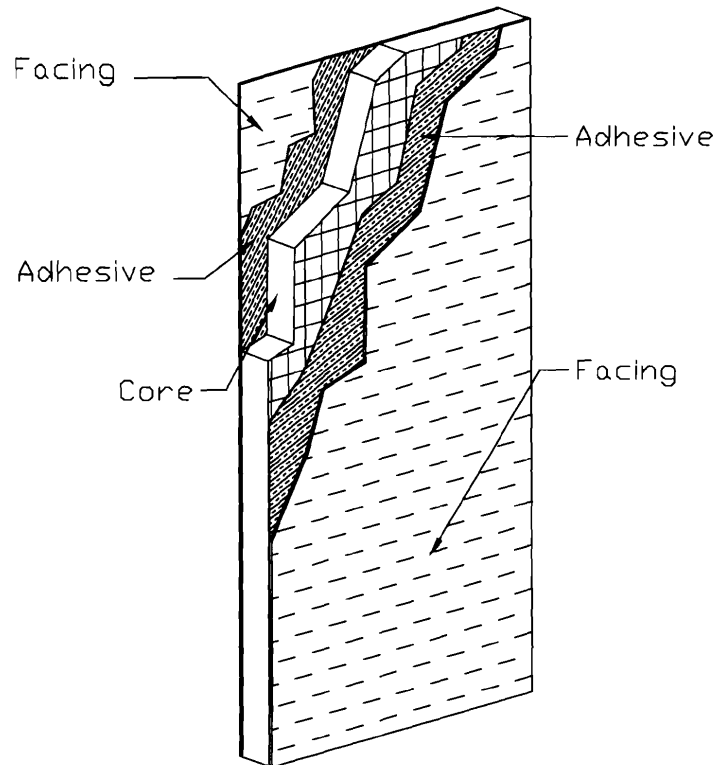

FIGURE R614.4
R614.4 SIP Wall Panels. SIPs for wall systems shall comply with Figure R614.4 and shall have minimum panel thickness as per Tables R614.5(1) and R614.5(2) for above-grade walls. All SIPs shall be identified by grade mark or certificate of inspection issued by an approved agency.